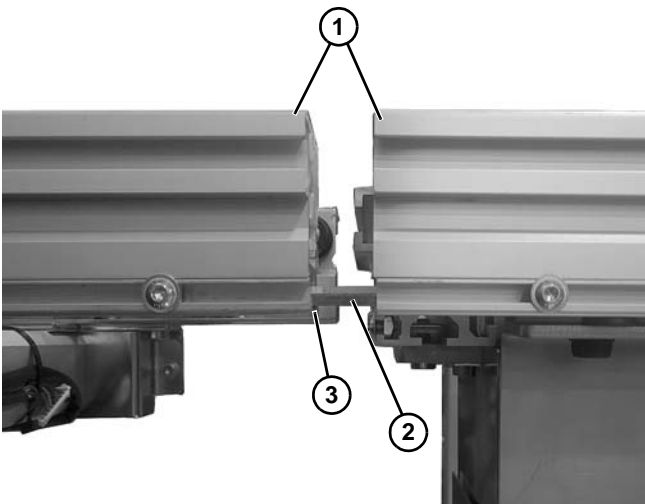

Figure 29
1. Join conveyor frames (Figure 29, item 1) and install conveyor tie brackets (Figure 29, item 2) in bottom slots (Figure 29, item 3) on both sides of the conveyor.